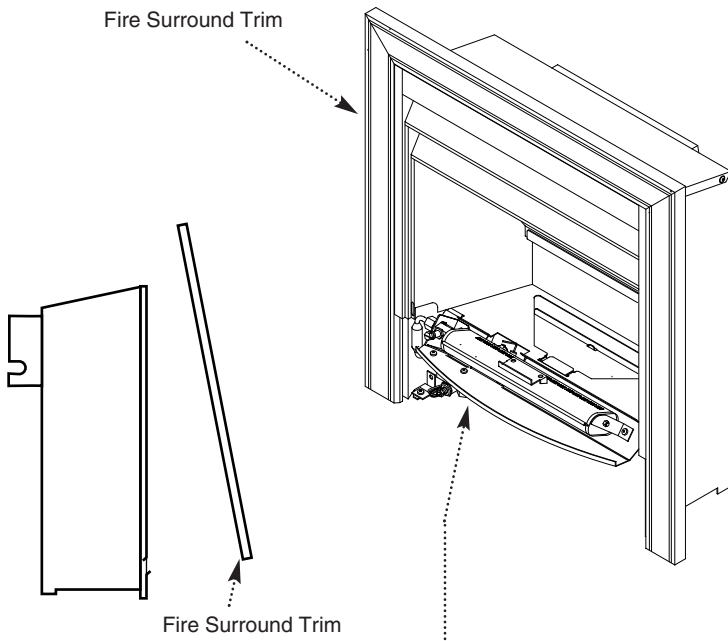

Fig. 78
2. Lift the surround trim away from combustion box (Fig. 78).